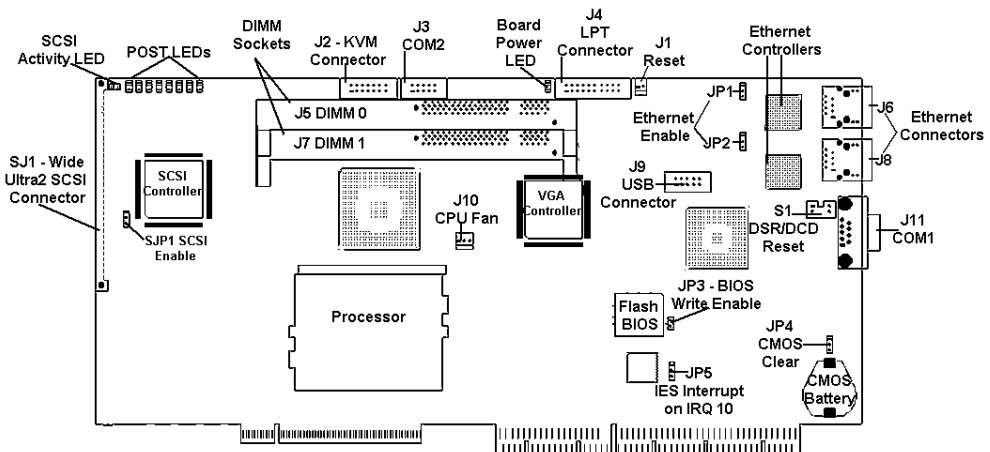

Figure 2 FC370-674X Board Layout
The FC370-674X has an integrated Wide Ultra2 SCSI controller with Single-Ended or Low Voltage Differential (LVD) support to an internal SCSI connector. The board layout is pictured in Figure 2.
S1, position 2, is for data carrier detect (DCD). If position 2 is set in the “on” position, the FC370-674X board will reset the CPU when there is a loss of carrier. The factory default setting for S1, position 2, is in the “off” position. See Figure 2 for Switch 1 (S1) location.
The board is equipped with two integrated Intel® 82559 PCI fast Ethernet controllers, each with RJ-45 10/100 BASE TX connectors on the mounting bracket at the rear of the board. The I/O addresses and interrupts are set by the PCI plug and play BIOS at boot time. The controllers are enabled or disabled via jumpers JP1 and JP2 (see Figure 2 for jumper locations).
If the Flash Bios is to be upgraded, a shunt must be installed on the 2-pin jumper JP3 (see figure 2 for JP3 location). Upgrades typically come on a floppy disc and are accompanied by upgrade instructions.* When the upgrade is complete, the shunt should be removed to protect the system from accidental erasure.
The CMOS memory can be cleared by using JP4 (see Figure 2 for JP4 location). This memory controls the maintenance and storage of three sets of information: (1) the date and time generated and displayed on the computer screen; (2) the peripheral setup, i.e. programming base register for the chip sets; and (3) the password necessary for entry.
As stated above, the on-board Symbios Wide Ultra2 SCSI controller can be enabled or disabled with SJP1 (see Figure 2 for SJP1 location).
Additional memory can be installed on the FC370-674X board. There are two DIMM slots available on this board (see Figure 2 for DIMM slot locations). If only one DIMM is installed, this DIMM should be installed in DIMM 0 (J5). The sequence of DIMM installation relative to DIMM size is not important. DIMMs must be PC-100 compliant.
The FC370-674X board has a group of eight LEDs arranged to the right of the SCSI connector (SJ1) and SCSI Activity LED (see Figure 2 for POST LED location). As the system proceeds through its Power On System Test (POST) these LEDs display binary codes which can be used to diagnose board failures. Refer to the AMIBIOS POST Checkpoint Codes (Doc. #0882) for detailed POST code information, or check the Cubix website:
There is a Board Power LED located on the FC370-674X board to the left of the LPT connector (J4) (see Figure 2 for Board Power LED location). This LED light will be green when there is power to the board. This LED is only visible when the cover is off the Density System.